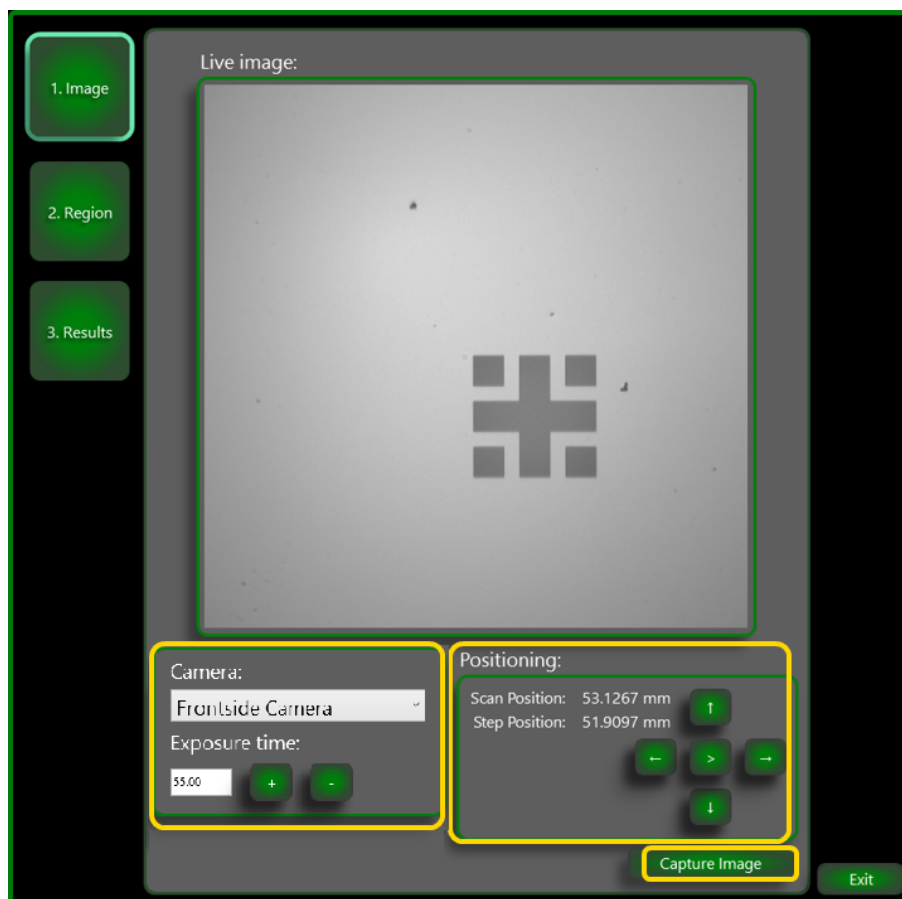

Figure 3-107 Live image window
2. Click **Add** to start a new marker training. The Live image window of the marker that you found in the steps above becomes visible, see **Figure 3-107 on the facing page**.